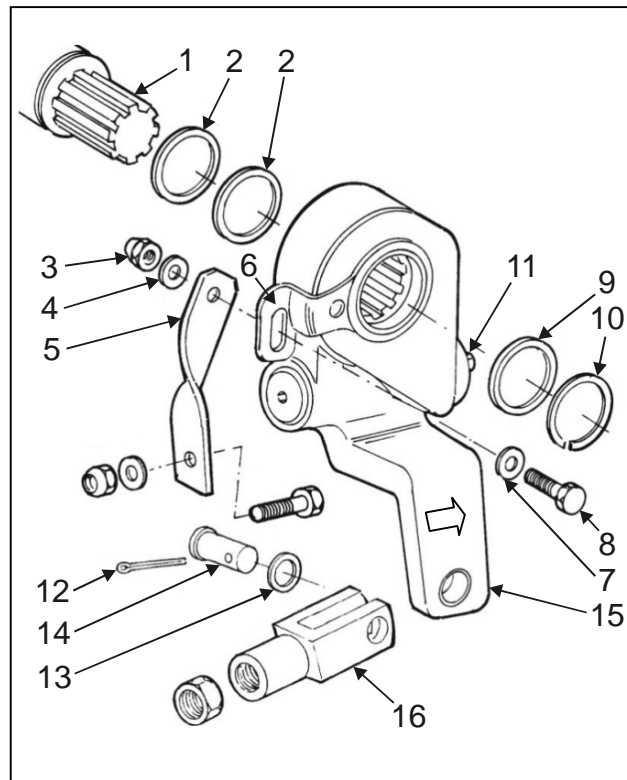

Figure 2: Slack adjuster installation – exploded view
- **To install (see Figure 2)**
- 4) Install spacer (2) on camshaft (1).
- 5) Slide the slack adjuster (15) onto the camshaft so that the slack adjuster arm is as near as possible to the pushrod yoke (16).